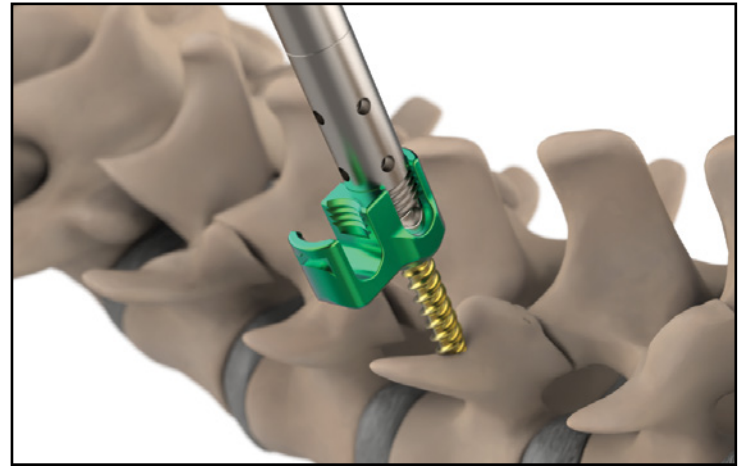

Figure 9.7
3. Using a 1/4 Square Handle, insert the assembly into the prepared pedicle until desired depth is reached (Figure 9.7).